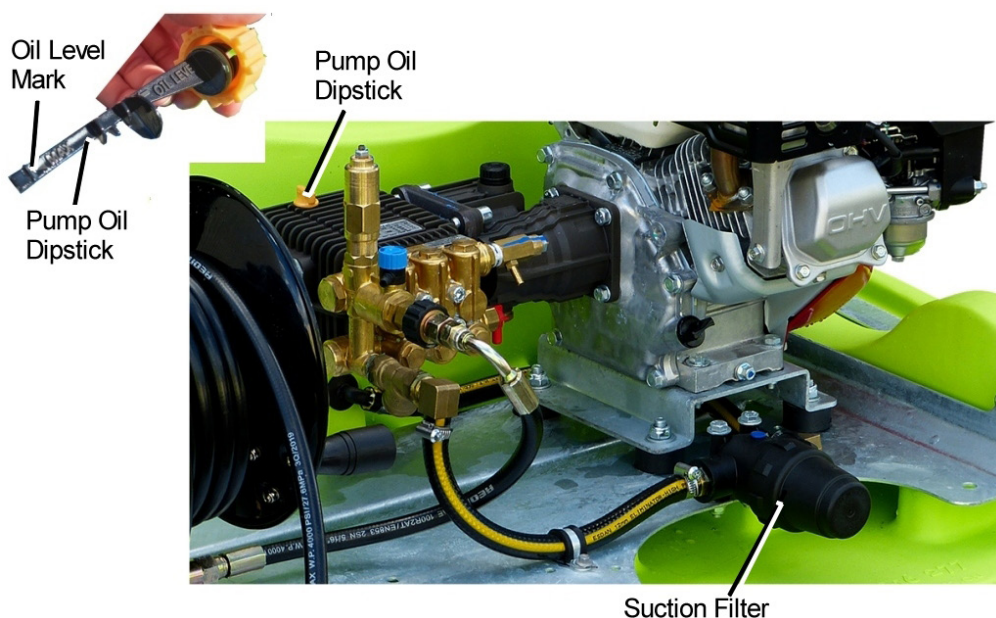

Figure 5 – Bertolini Pump
4	Check pump oil level, top up as required (refer to Figure 5)
3. Unscrew the suction filter cover (refer to Figure 5) and remove the filter screen and gasket. Soak the filter screen in clean water, brushing carefully with a nozzle brush. When re-assembling, ensure the gasket is in position.
4. For the Bertolini pump, check the oil level, refer to Figure 5.